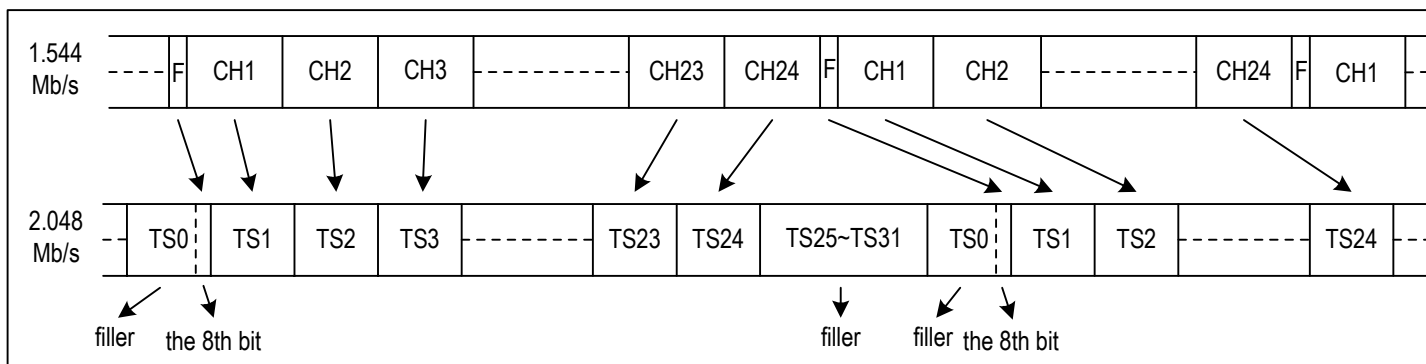

Figure 20. T1/J1 To E1 Format Mapping - Continuous Channels Mode
- T1/J1 Mode E1 Rate per Continuous CHs (refer to Figure 20): Channel 1 to Channel 24 of Frame N from the device are converted into TS1 to TS24 of Frame N on the system side. The F-bit of Frame N from the device is converted into the 8th bit of Frame N on the system side. The first 7 bits and TS25 to TS31 on the system side are all filled with '0's and they are meaningless.